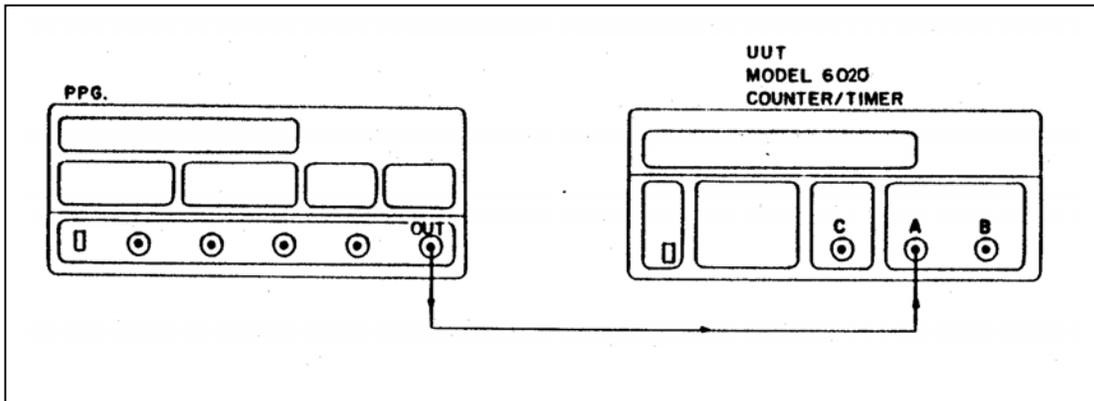

Figure 5-12. Auto Trigger A and B Test Set-up.
1. Connect the test equipment as described in Figure 5-12.
5. Modify the connections in Figure 5-12 above so that the pulse generator will now be connected to Channel B.